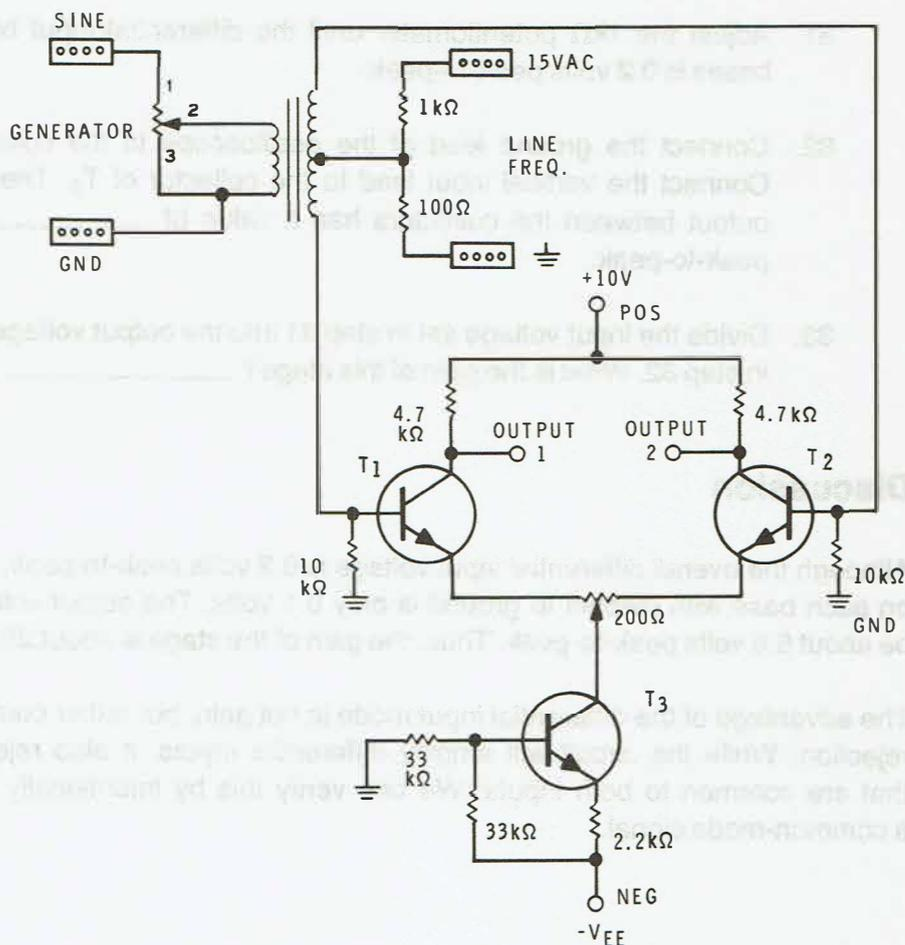

Figure E10-6
34. Modify the circuit as shown in Figure E10-6. Notice that this introduces a relatively high 60Hz signal at the center of the transformer.